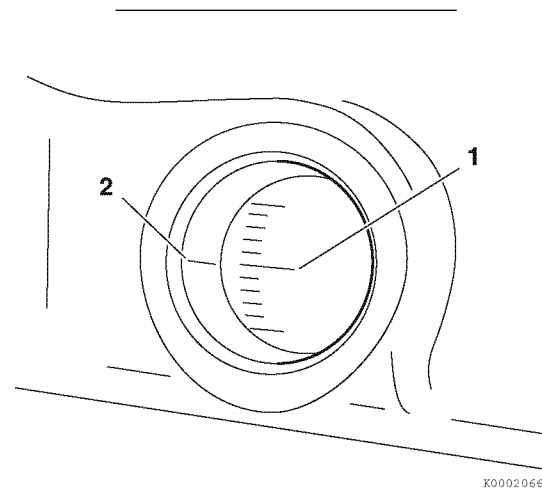

Figure 7-41
2. Rotate the flywheel until the target timing mark **(Figure 7-41, (1))** and the timing reference mark **(Figure 7-41, (2))** on the flywheel housing or back plate are aligned.